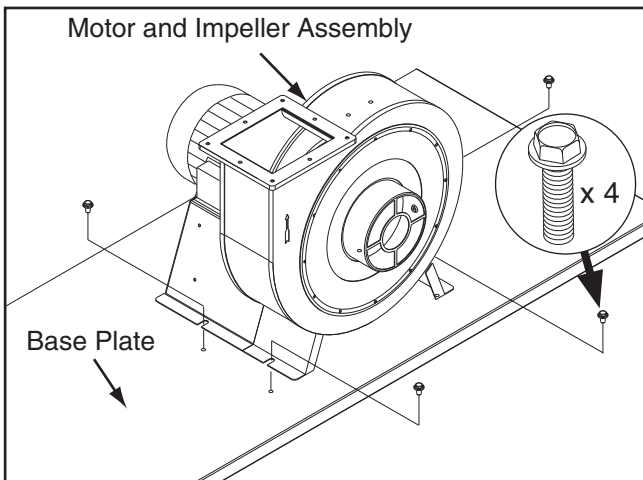

Figure 10. Motor and impeller assembly installed onto the base.
3. Turn the base over, align the motor and impeller assembly with the mounting holes, then secure the assembly with (4) $\frac{5}{16}$ "-18 x $\frac{1}{2}$ " flange bolts, as shown in **Figure 10**.